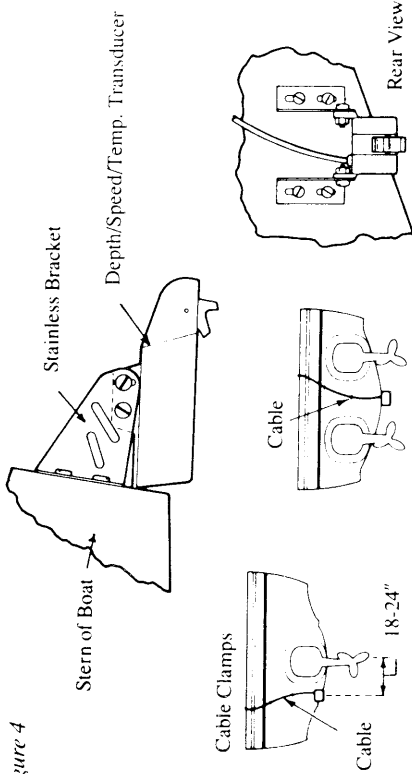

Figure 4
- 1) Assemble the transducer to the bracket as shown in *Figure 4*. (Note: transducer shown is depth/speed/temperature transducer. Refer to installation instructions packed with your particular transducer if different. The illustrations below will still apply for general mounting location and positioning.)